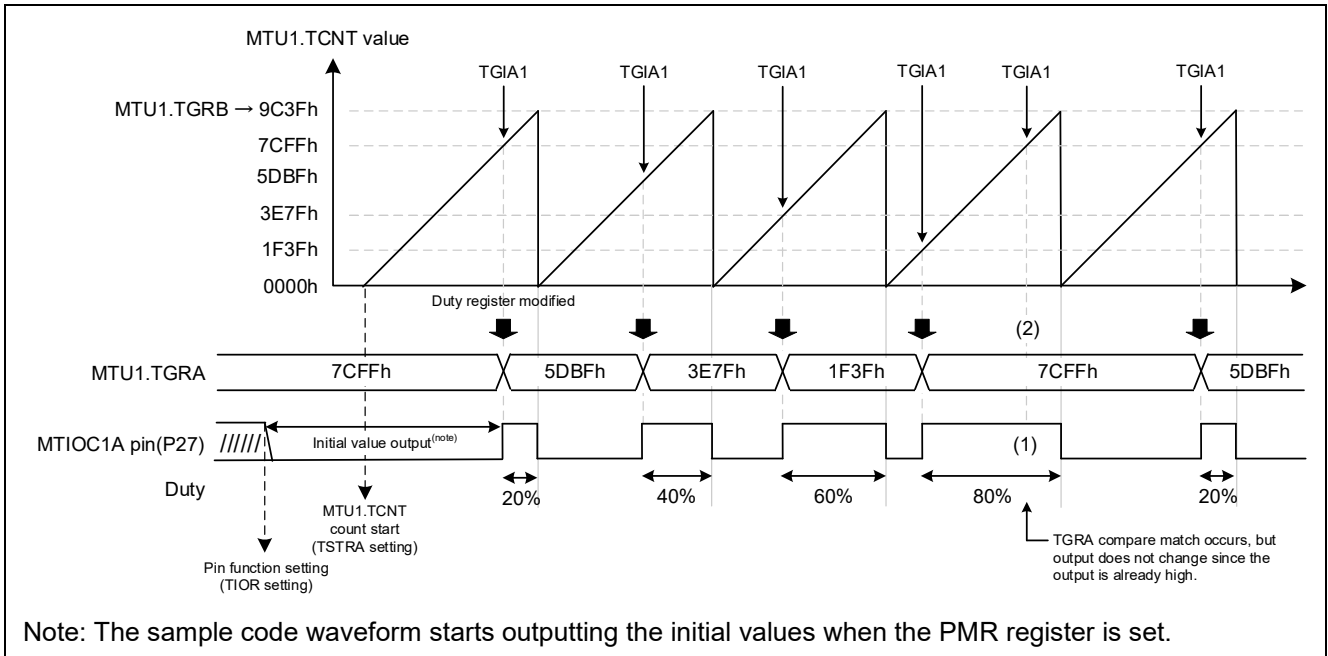

Figure 3.17 Sample Code Operations
- Refer to Figure 3.17 for details on timing for duty cycle changes
The sample code operations are shown in Figure 3.17. The settings of the duty cycle are changed with each period by modifying the TGRA value at the compare match interrupt (TGIA1) of duty register TGRA.
For details, refer to (1) in Figure 3.17.